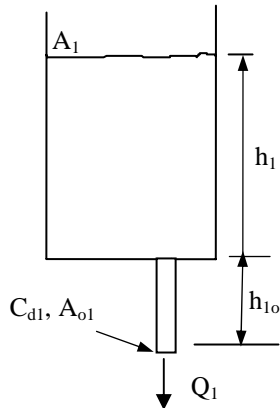

Figure 1: Single tank.
- To measure the initial-condition response of a single draining tank, as shown in Figure 1.